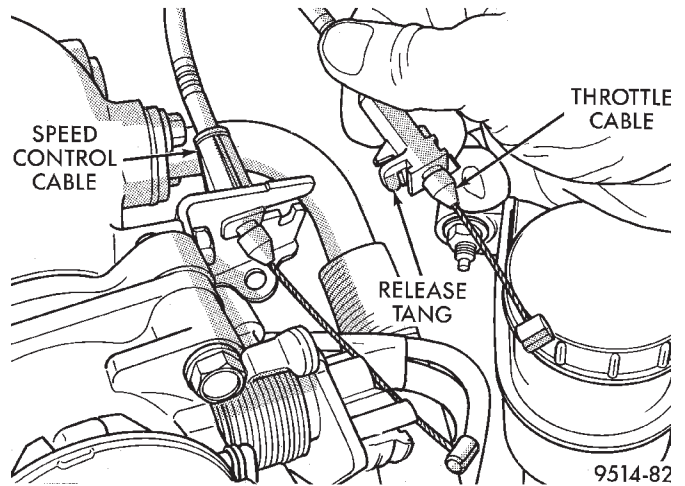

Fig. 37 Throttle Cable Attachment
(9) Pry retainer tab back on throttle cable and slide cable out of bracket (Fig. 37). Remove cable from throttle lever.
(10) Slide Speed control cable out of bracket, if equipped (Fig. 37). Remove cable from throttle lever.